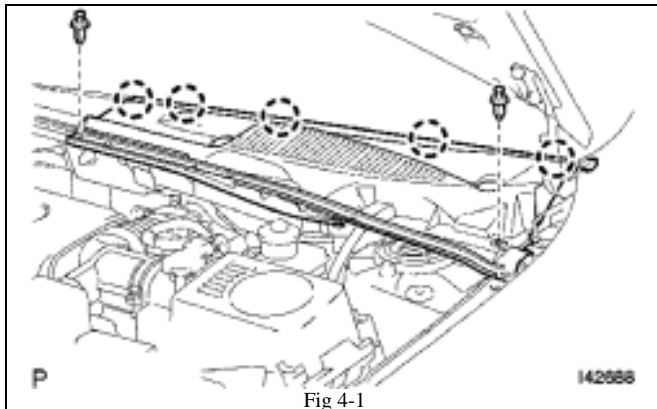

Fig 4-1
- (b) Remove hood to cowl seal. (Fig 4-1)
- (c) Remove (2) cowl covers.